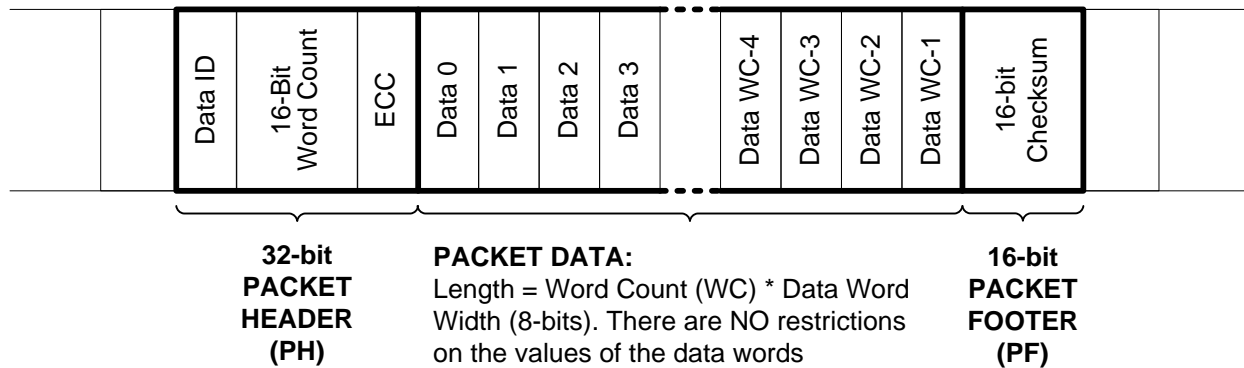

Figure 6. CSI-2 Long Packet Structure
A long packet consists of three elements: a 32-bit packet header (PH), an application-specific data payload with a variable number of 8-bit data words, and a 16-bit packet footer (PF). The packet header is further composed of three elements: an 8-bit data identifier, a 16-bit word count field, and an 8-bit ECC. The packet footer only has one element—a 16-bit checksum. Figure 6 shows the structure of a long packet.